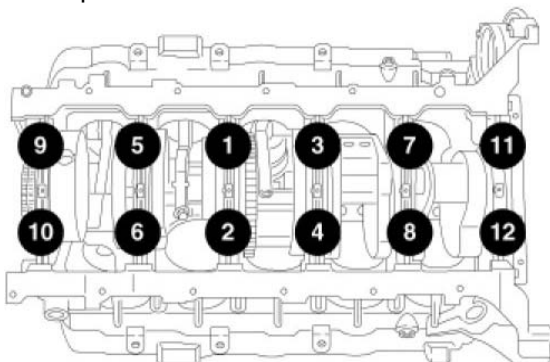

Figure 1 - Main Cap Torque Sequence
10. **Following the manufacturer's recommended torque sequence, Figure 1, tighten the nuts per the steps below:**